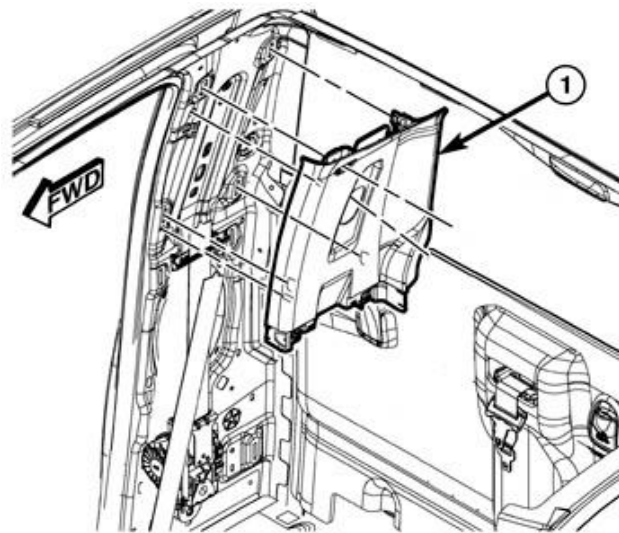

Figure 75 – C-Pillar Upper Trim Panel
15. Release the retaining clips and remove the C-pillar upper trim panel (1) (Figure 75).
56. Install the C-pillar upper trim panel (1) and engage the retaining clips fully (Figure 75).